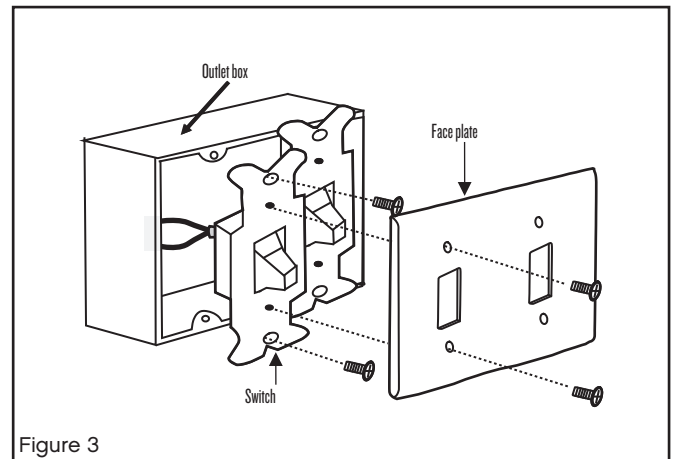

Figure 3
- 1 Remove the existing wall plate and old switch from the wall outlet box. (Fig. 3)
- Slide the reversing switch (located at the top of the motor housing, refer to figure 3 on page 7) to opposite position, and turn fan on again. The fan blades will turn in the opposite direction and reverse airflow.
A DOWNWARD airflow creates a cooling effect as shown in Figure 3. This allows you to set your air conditioner on a warmer setting without affecting your comfort.